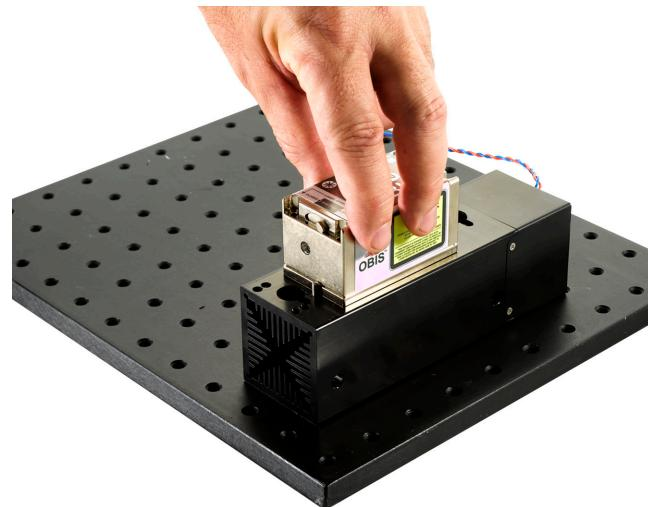

Figure 3-7. Align the Laser to the Heatsink
3. Align the Laser to the Heatsink, as shown in Figure 3-7.